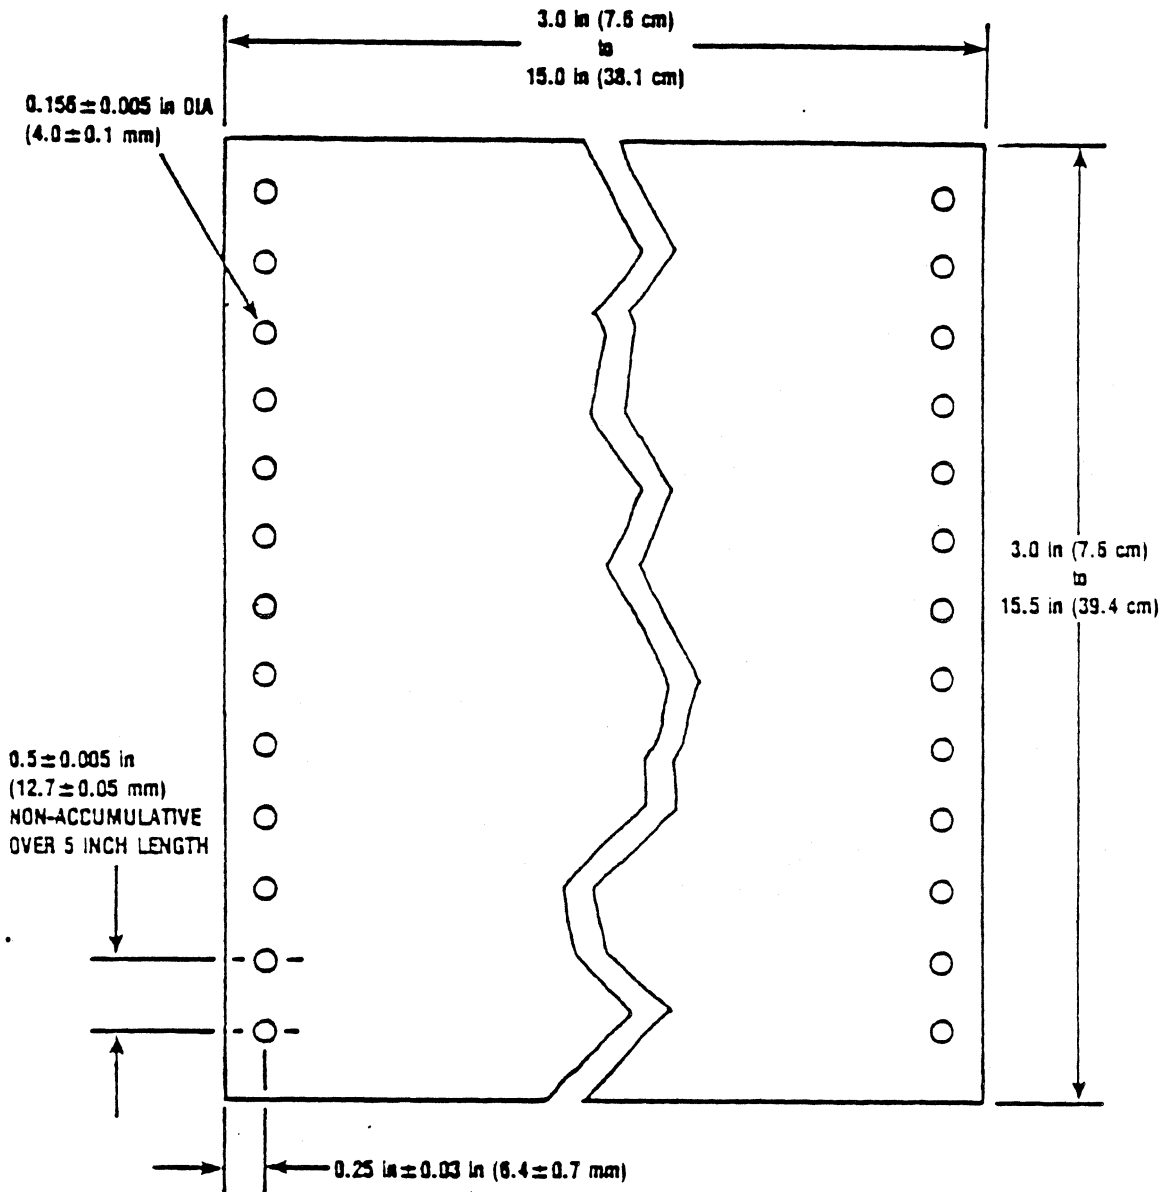

Figure F-1
1. Size: See Figure F-1 for size specifications.